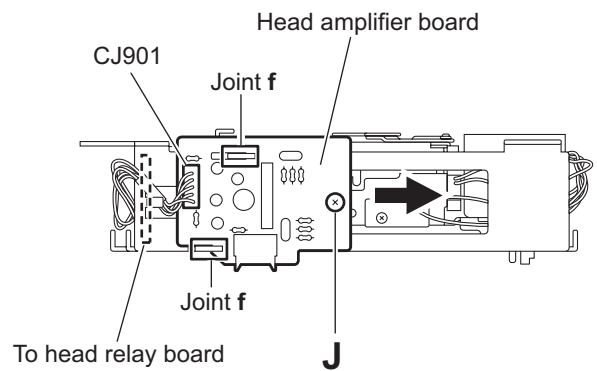

Fig.8
3.1.8 Removing the head amplifier board (See Fig.8)
3.2.11 Removing the mute switch board (See Fig.8)